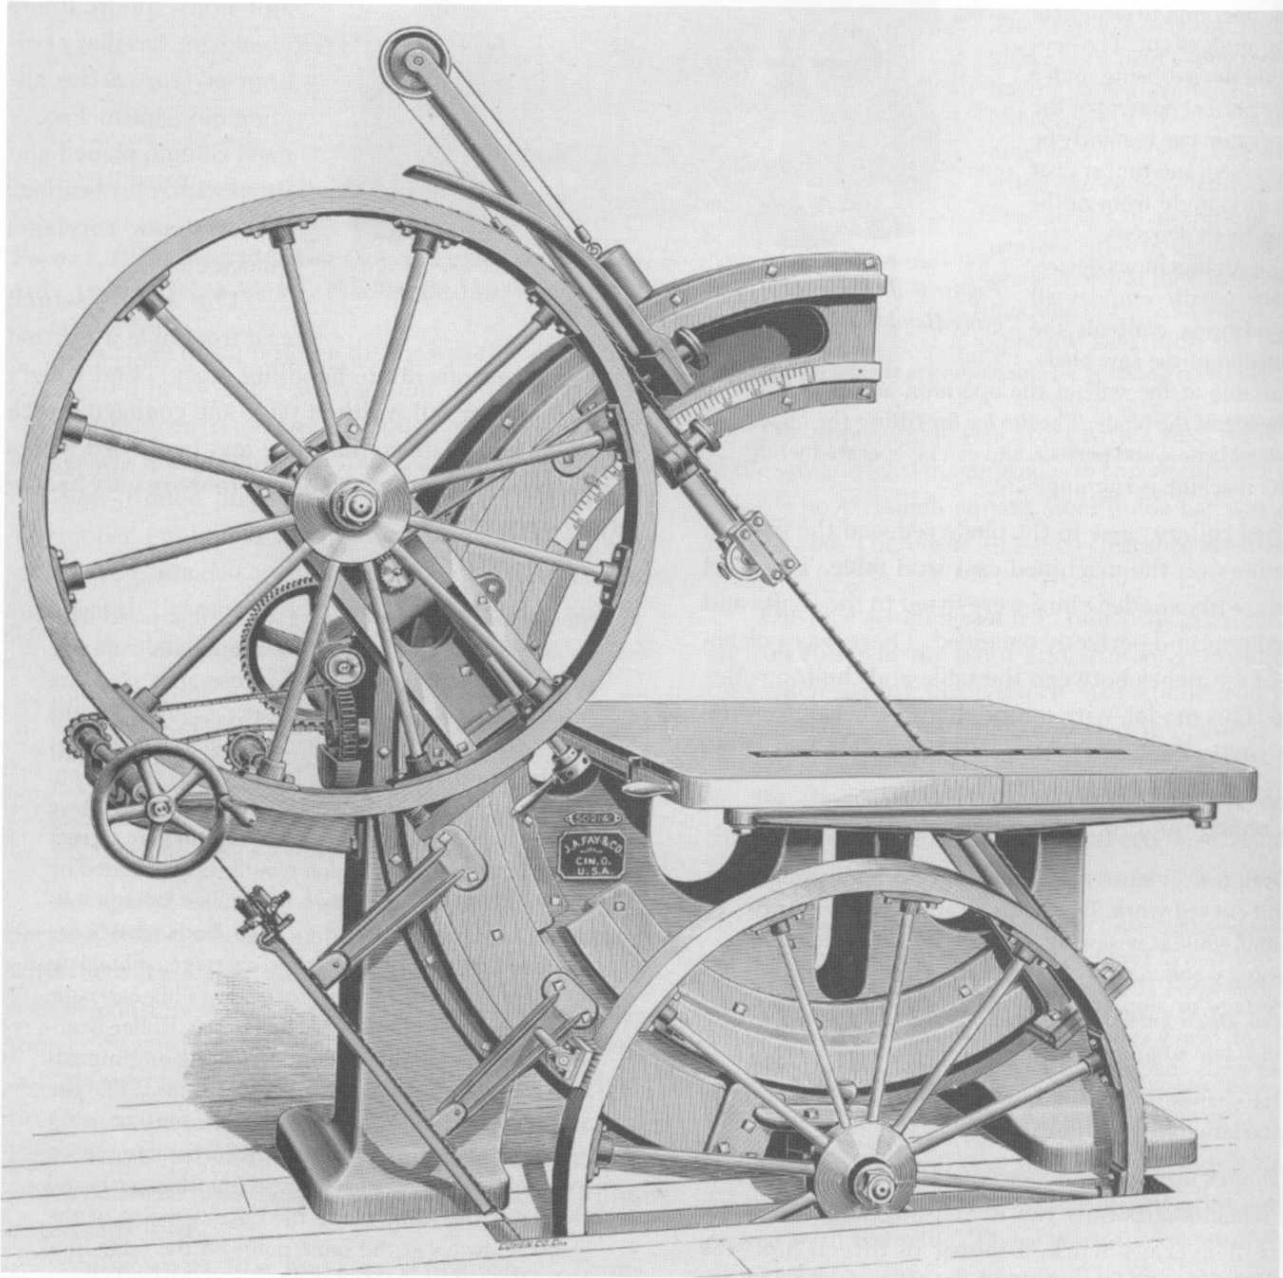

Figure 5. J. A. Fay & Co.'s c. 1893 New 48-Inch No. 8 Band Saw. J. A. Fay & Egan Catalogue Series L, c. 1900.
J. A. Fay & Egan Co., Cincinnati, Ohio, described their new 48-inch, No. 8 Band Saw in Catalogue Series L, circa 1900 (Figure 5). (It was their first combined catalog.) The machine carries the J. A. Fay & Co. nameplate. Fay & Egan were consolidated in 1893, though operated as separate entities until about 1900. It isn't known whether this arrangement encompassed separate patent applications as well. Probably not. It is very likely the saw dates to at least 1893. As the catalog described it: